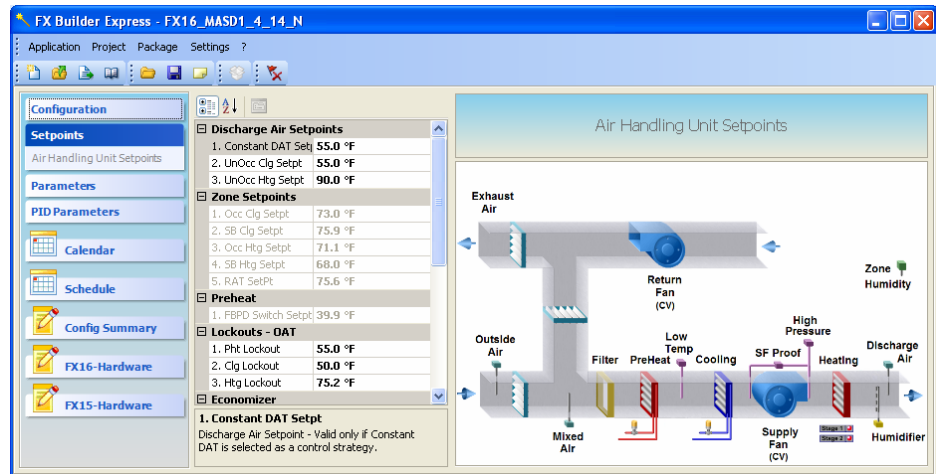

Figure 20: Setpoints Tab
1. In FX Builder Express, select a standard application and select Setpoints. Setpoint information appears (Figure 20).